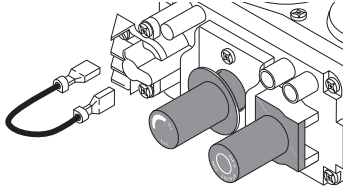

Figure 28 - Disconnecting Wires From Control Valve
1. Disconnect wires from the control valve (see Figure 28).
1. Remove jumper wire from control valve (see Figure 28, page 19).